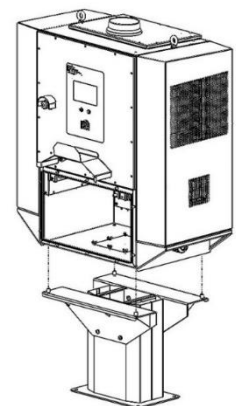

Figure 11 - Charger mounting holes being lowered onto four pedestal studs
3. Lower charger’s mounting holes onto four pedestal studs (Figure 11).